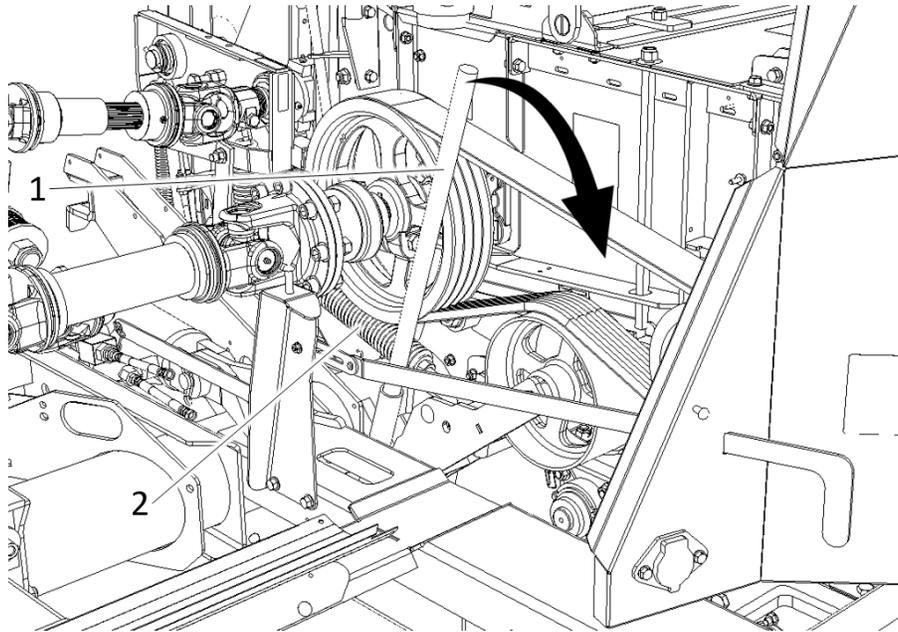

Figure 34 Accelerator tensioner
### STEP 3 - FIGURE 34
Reinstall the accelerator belt and hook the spring back on (item 2). Use the knife guide bar (item 1) to reset the tension in the belts. (Reverse from Step 3 – FIGURE 34 ACCELERATOR ).